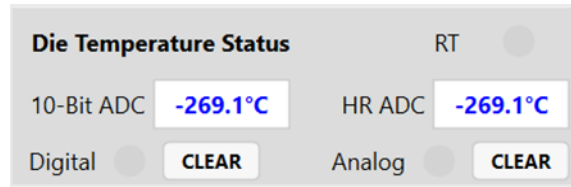

Figure 40: Die Temperature Monitor
9. Monitor the die temperature (see Figure 40).